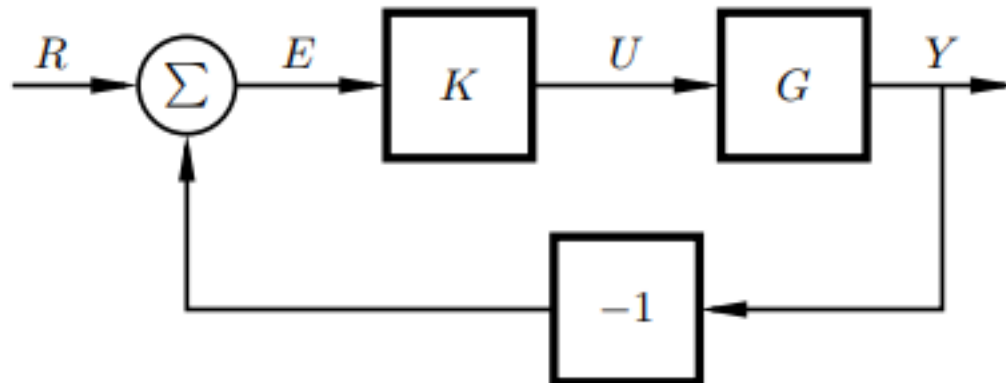

Figure 1: The closed loop system for problem 1.c.
- The system is controlled with a P-controller with gain K , see Figure 1. For what values of K is the closed loop system asymptotically stable? (answer for both positive and negative values of K).